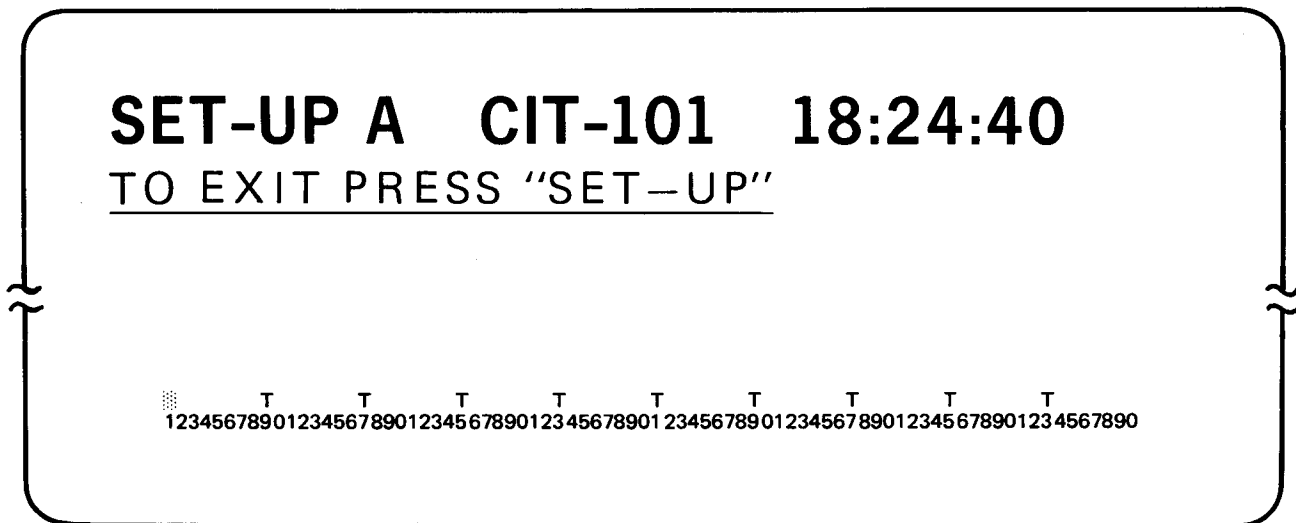

Figure 3-6. SET-UP A Mode With Time-of-Day Clock Display
**3.2.5.2.4 Time-of-day clock.** A Double-Height, Double-Width, 24 hour Time-of-Day Clock is available for viewing while in any SET-UP mode. This clock is enabled and set via the same command and may be disabled if desired. Figure 3-6 shows the time of day clock display. See Section 4.4.30 for these commands.
**3.2.6.1 SET-UP A Mode.** SET-UP A Mode is entered by pressing the “SET-UP” key. In this mode the Display shows in ruler fashion the locations of all the currently set TAB STOP positions and the currently selected Screen Width. Each available column is numbered in repeating groups of 1 through 0 for easy location of the TAB STOPS. Figure 3-6 shows a picture of SET-UP A Mode.